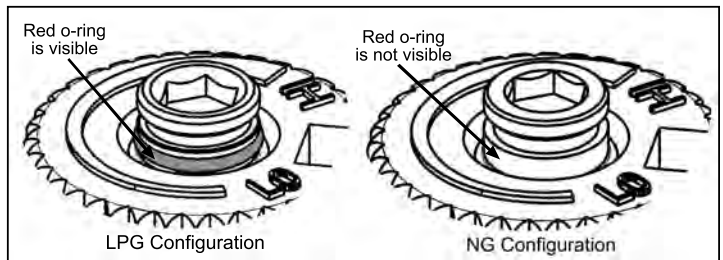

Figure 21: O-ring on valve screw.
- g) Verify that if the conversion is from NG to LPG, the screw must be re-assembled with the red o-ring (refer to Figure 21). If the conversion is from LPG to NG, the red o-ring of the screw must be not visible.